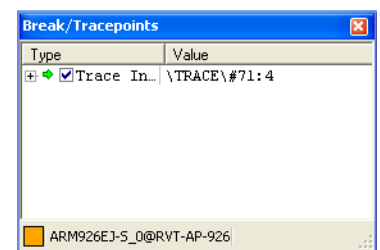

Figure 10-34 Break/Tracepoints view showing a tracepoint
- a. Select **View** → **Break/Tracepoints** from the Code window main menu to open the Break/Tracepoints view. Figure 10-34 shows an example: